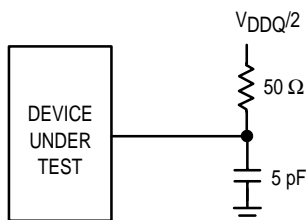

Figure 1B
2. Measured at ± 200 mV from steady state. See Figure 1B.